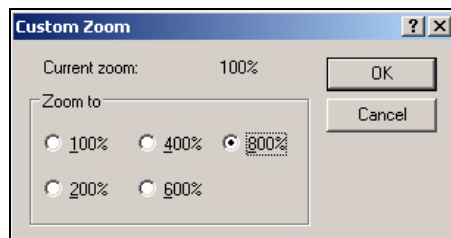

Figure 5-44: Custom Zoom
- 2 Navigate to *View > Zoom > Custom*. The *Custom Zoom* (Figure 5-44) dialog box appears.